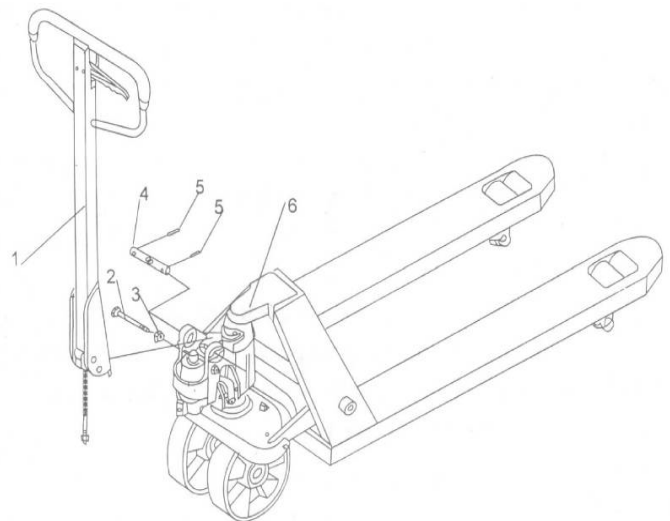

Fig.5 Tiller assembling (symbolic)
c) Press the tiller arm down; take away the pin (2, Fig. 5).
d) Set the control lever of the handle to 'QUICK LIFT' (LIFT) position, then raise the lever plate with the pin (2, Fig. 5) and insert the adjusting bolt into the front slot of lever plate. Note: Keep the adjusting nut under the lever plate.
e) Use a hammer to insert the 2nd dowel pin (5, Fig. 5) into the 2nd hole of the axle.